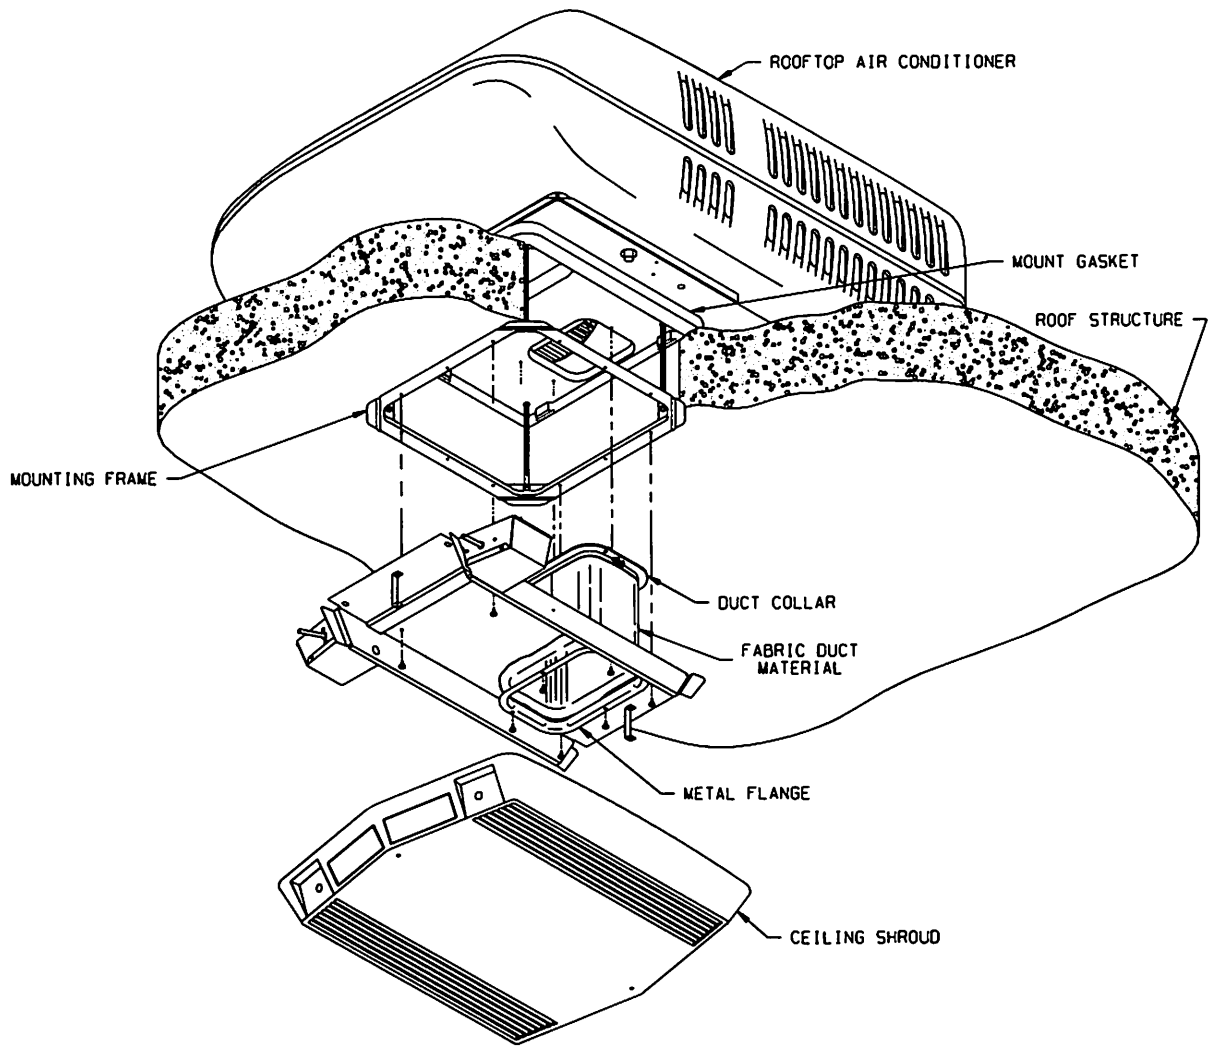
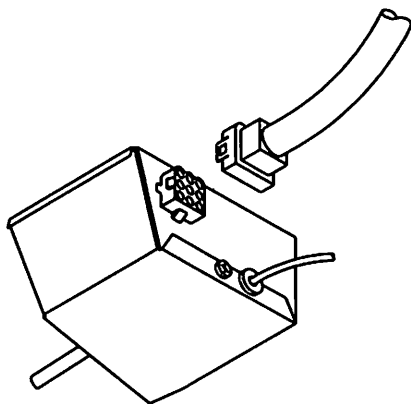

FIGURE 6
FIGURE 7
- D. Before the ceiling assembly can be mounted to the mount frame, the duct collar must be fastened to the basepan of the air conditioner with three (3) screws (See Figure 6).
- F. Pull fabric duct material through ceiling assembly discharge duct opening. Slit the 4 corners of fabric duct which extends below duct opening (See Figure 6).
- G. Place metal flange in discharge duct opening, trapping fabric between it and the ceiling assembly (See Figure 6).
- I. Fasten the metal flange to the ceiling assembly with four (4) screws. **To avoid air noise and restrictions, trim any excess fabric that may extend beyond edge of metal flange.**
- K. Take the roof top air conditioner electrical conduit and plug it into the back of the thermostat control box. Make sure that the "ridged" side of the plug is aligned and matched with the "ridged" side of thermostat control box connection. **DO NOT USE EXCESSIVE FORCE** and make sure the lock-in tabs are snapped in place (See Figure 7).